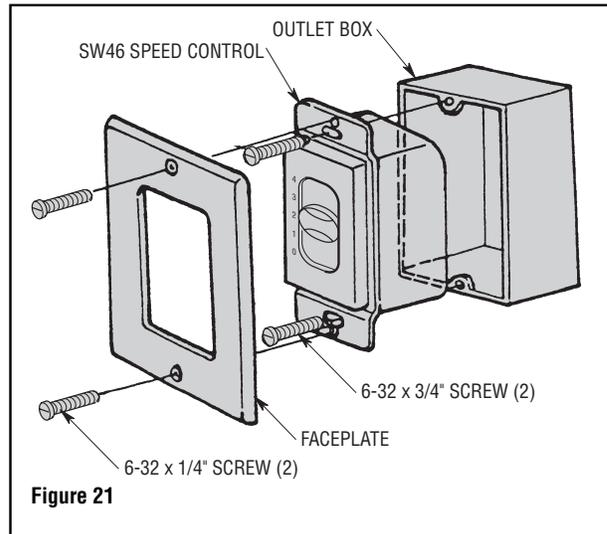

Figure 21
- Position the faceplate (provided) onto the SW46 speed control. Using the two 6-32 x 1/4" screws, screw the faceplate and speed control to the wall outlet box (Figure 21).